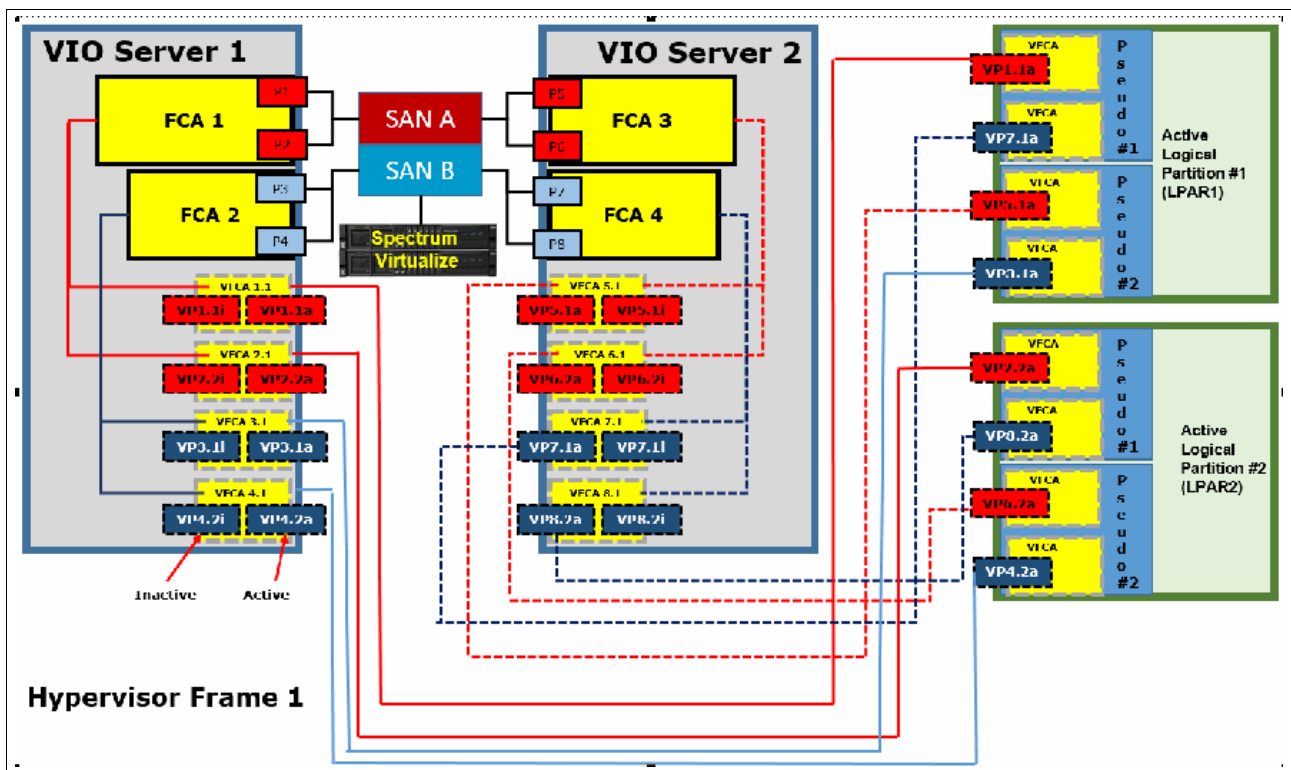

Figure 1-33 LPARs SAN connections
- ▶ Create a pseudo host in IBM Spectrum Virtualize/Storage host definitions that contain only two virtual WWPNs, one from each fabric as shown in Figure 1-33.
Figure 1-33 shows a correct SAN connection and zoning for LPARs.